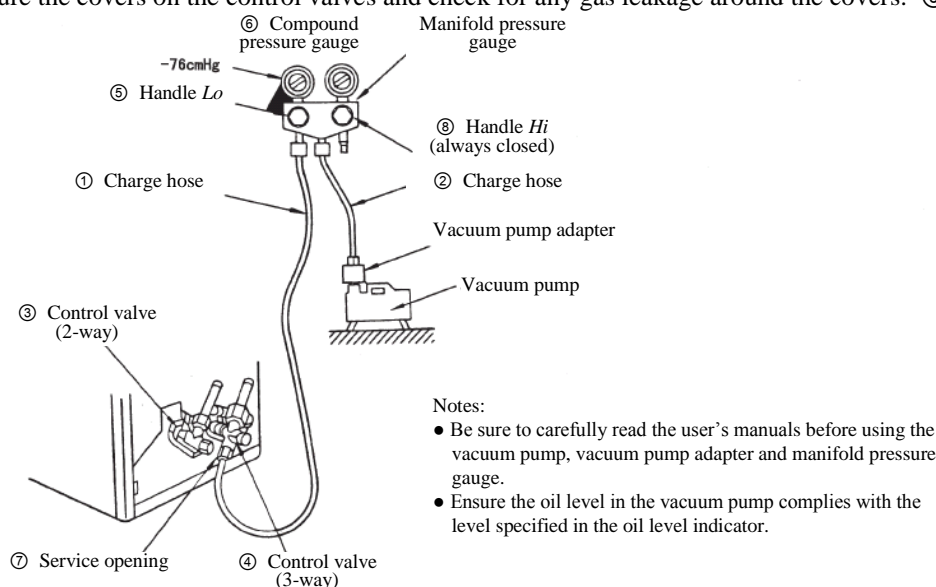

Figure 6 Evacuation structure of vacuum pump
- (1) Use the vacuum pump to suction air and detect any gas leakage (see Figure 6)
- a) Connect the charge hose to the outdoor unit. ①
- b) Connect the charge hose to the vacuum pump adapter. ②